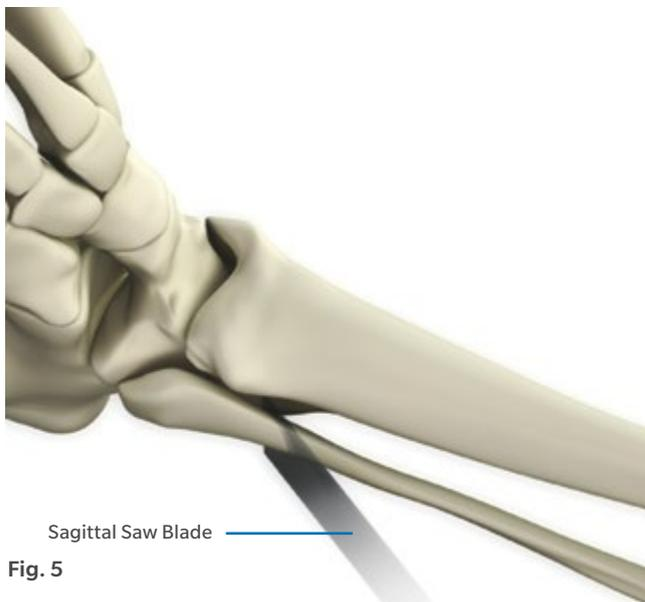

Fig. 5
- Start the osteotomy 2.5 cm-3.0 cm proximal to the joint line, and end it 1.0 cm-1.5 cm proximal to the joint line (Fig. 5).